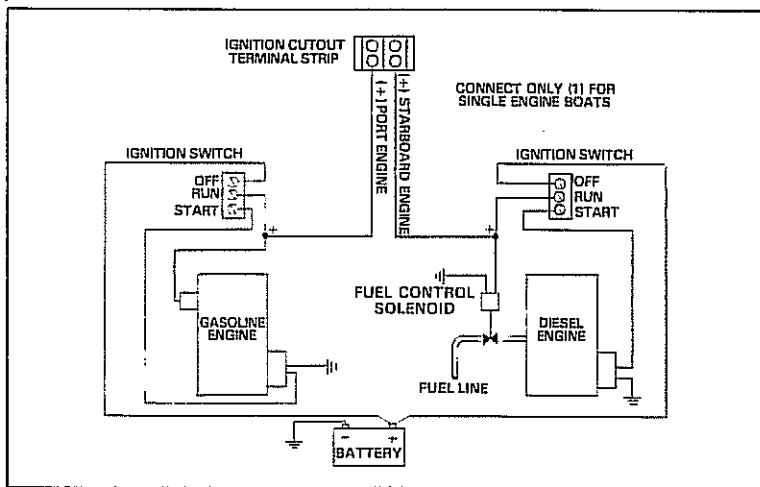

Figure 8. Ignition Cut-Off.
5. Connect ignition cut-off, if desired. This is accomplished by connecting either or both of the ignition cut-off terminals to the positive output terminal of the ignition switch or the positive terminal of the fuel supply solenoid for the main engine. Use #16 AWG or larger wire with 105 °C insulation and terminate with locking forks or ring terminals. See Figure 8.